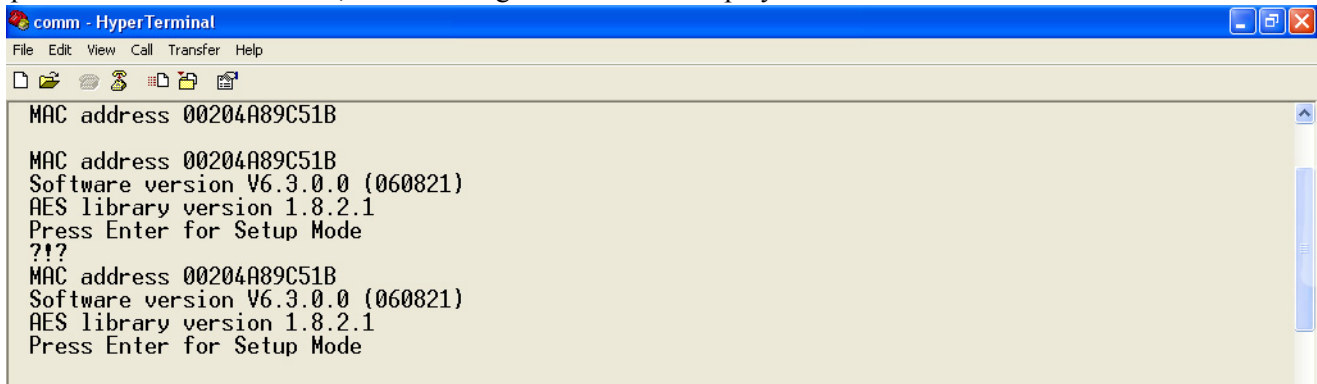

Figure 9. Display Information for Setup Mode
**NOTE:** The easiest way to connect is to hold down the x key on the PC's keyboard until the manual reset button is released and the PC screen displays the MAC address and software version as shown in Figure 9. This must be done within **three** seconds of resetting the WLAN option.